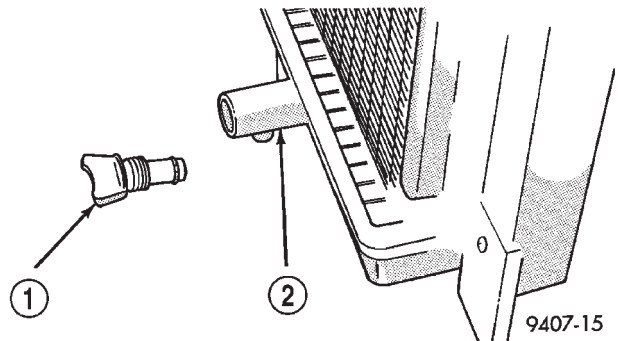

Fig. 26 Draincock
(1) Turn the drain cock stem counterclockwise to unscrew the stem. When the stem is unscrewed to the end of the threads, pull the stem (Fig. 26) from the radiator tank.